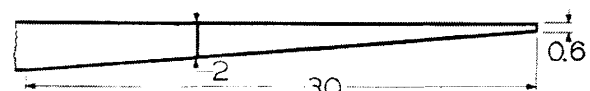
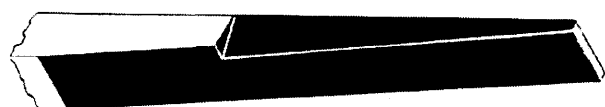

Fig. 27-10
Fig. 27-10P
4. Turn rod over in vise and file the lower side off as in figure 27-10 and figure 27-10P leaving the end measurement at .6 mm thick and the taper about 30 mm back from the end.